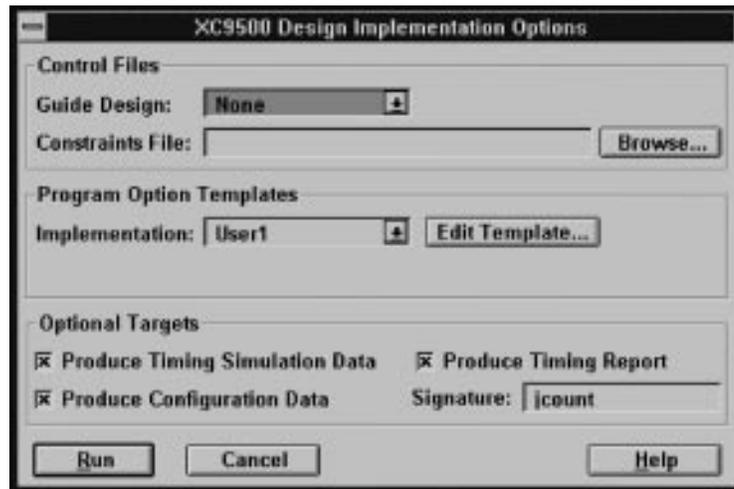

Figure 1-9 Design Implementation Dialog Box
1. Select the Implement command from the Design menu. The Design Implementation Dialog box appears as shown in Figure 1-9.